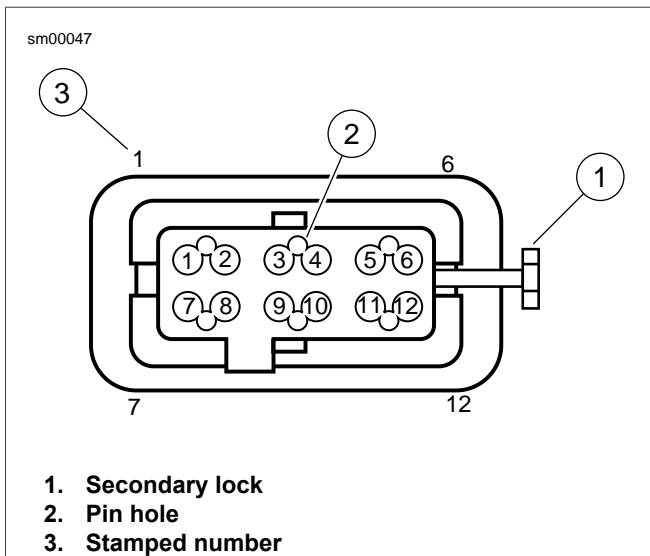

Figure A-23. Delphi Micro-64 Sealed Connector: Housing
1. See Figure A-23. Locate the head of the secondary lock (1) on one side of the connector housing.
3. Locate pin hole (2) between terminals on mating end of connector.
See Figure A-23. For wire location purposes, the corners of the socket housing are stamped (3) with the numbers 1, 6, 7 and 12, representing terminals 1-6 on one side, and 7-12 on the other.